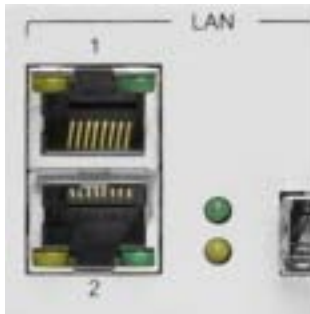

Figure 5-1: LAN ports on the front panel of the IDU-NetStream RM
1. Connect the managing computer to one of the two LAN ports as shown in Figure 5-1 below: